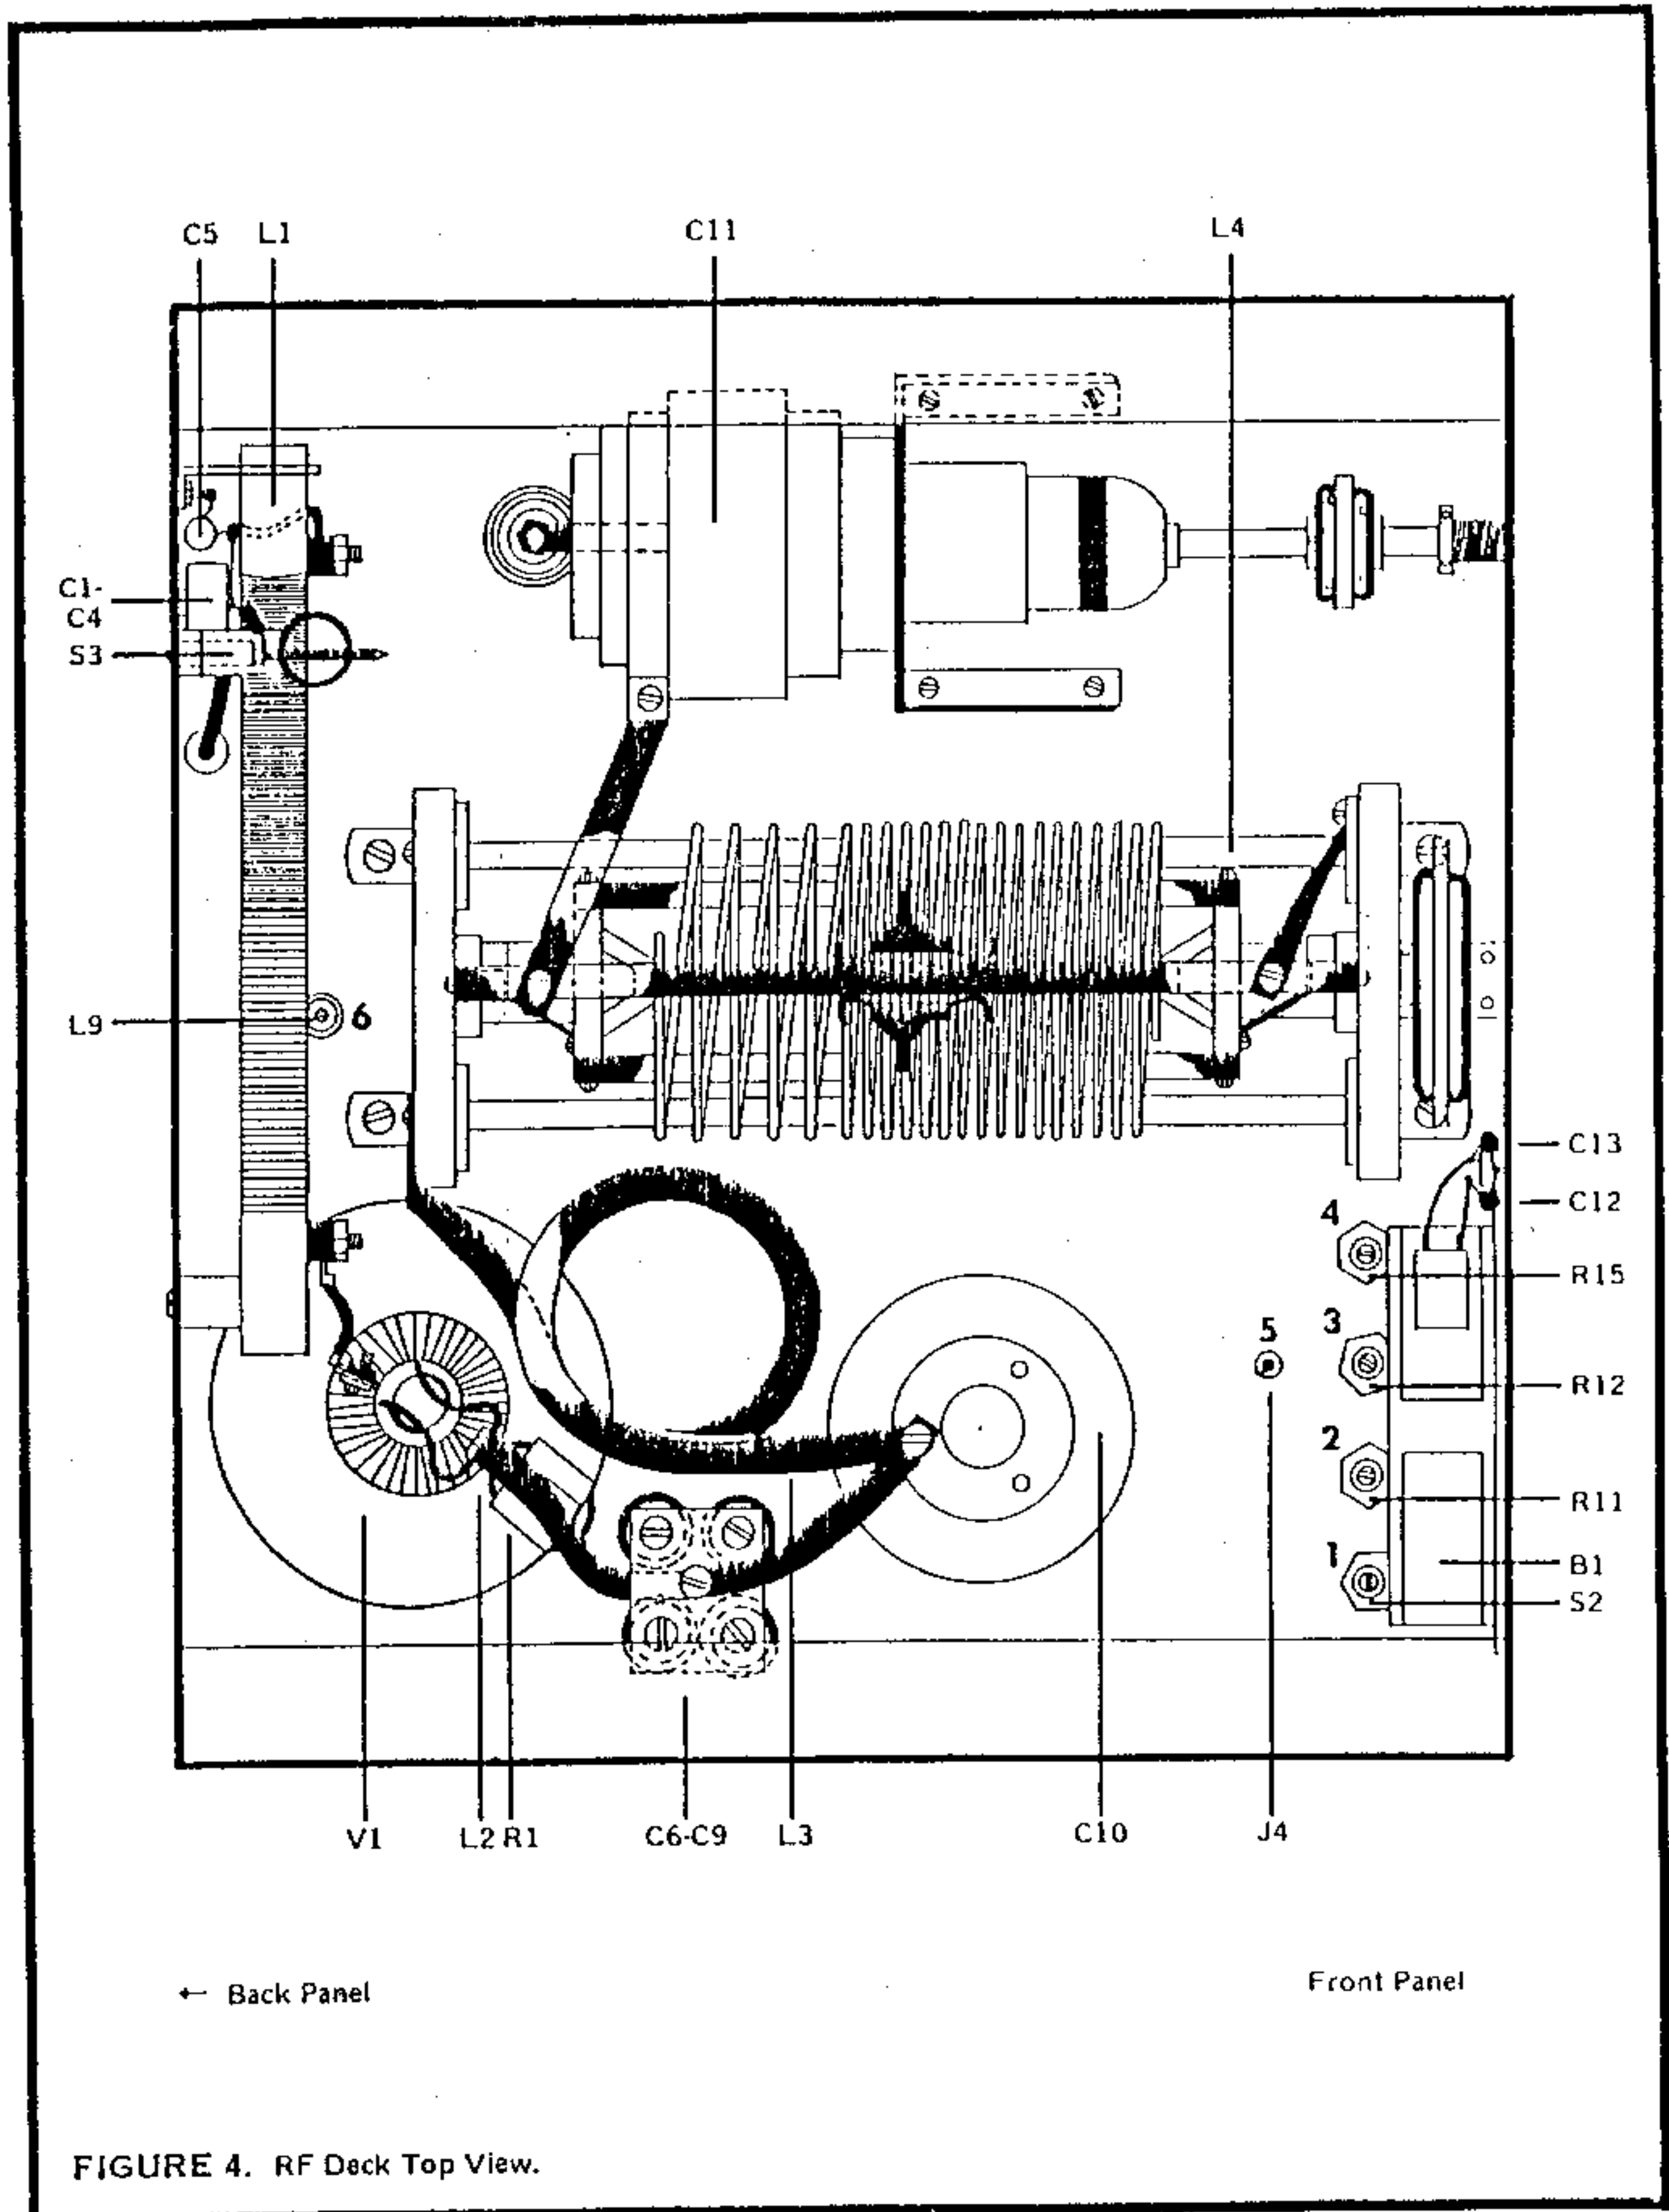

FIGURE 4. RF Deck Top View.
### 3.3 INTERNAL CONTROLS (See Figure 4)
**FILAMENT TRANSFORMER TAP SWITCH (1 on Figure 4)**— This switch selects between 6 primary taps on the filament transformer to compensate for the voltage differences at different operating positions.
**FILAMENT VOLTAGE METER ADJUST (2 on Figure 4)**— This control adjusts the FILAMENT VOLTAGE meter reading. It has been factory adjusted and should not be moved without referring to paragraph 5.4 in Section 5.
**GRID CURRENT METER ADJUST (3 on Figure 4)**— This control adjusts the reading on the GRID meter. It has been factory adjusted for a correct reading and should not be moved without referring to paragraph 5.5 in Section 5.
**PLATE CURRENT METER ADJUST (4 on Figure 4)**— This control adjusts the reading on the PLATE meter. It has been factory adjusted for a correct reading and should not be moved without referring to paragraph 5.6 in Section 5.
**GRID METER TEST POINT (5 on Figure 4)**— The ULTRA is shipped with a shorted phono plug in this test point. The amplifier will not operate without that plug. The test point is used to calibrate the GRID meter and the shorting plug should only be removed when calibrating the meter. The meter has been factory adjusted. The procedure for calibration is described in paragraph 5.5 in Section 5.
**L9 (6 on Figure 4)**— This variable inductor is used for adjusting the inductive matching network on the input of the amplifier to match the exciter. Calibration procedures are described in paragraph 5.8 in Section 5.
The filament voltage adjust switch is shown as number 1 on Figure 4. Remove the top of the amplifier and then its sub-top. Turn the POWER switch to the LOW position and switch S2 until the reading on the filament voltage meter is between 4.75 and 5.25 VAC. There is a jack on the rear panel so that an external meter can be connected for monitoring the filament voltage. The external meter should read .4 volt higher than the panel meter because of the voltage drop in the filament choke.
Remove the top cover and the sub-top of the amplifier. Turn the POWER switch to the LOW position. Connect an accurate AC voltmeter to the green tip jack on the rear panel of the ULTRA (8 on Figure 2). Depress the pushbutton switch under the GRID meter and adjust the filament voltage metering potentiometer (2 on Figure 4) until the reading on the test meter is .4 volts higher than the reading on the FILAMENT VOLTAGE meter.
Remove the top cover and then the sub-top. Remove the shorting plug from the grid metering test in the RF deck (5 on Figure 4). Connect a 0-500 ma meter (a Triplett 630 or its equivalent) to this test point. The circuit requires a 0-500 ma range even though the measurement is only 50 ma. With the POWER switch in the LOW position, increase the exciter drive until the test meter indicates 50 ma. Adjust the grid metering potentiometer (3 on Figure 4) until the GRID meter reading coincides with the test meter reading.
Remove the top cover and then the sub-top. Remove the rear panel of the power supply section. Insert a 0-1 DC amp meter in series with the high voltage connector (9 on Figure 4). Turn the POWER switch to the LOW position and apply drive until the test meter shows .5 amp. Turn the plate metering adjustment potentiometer until the 4K ULTRA PLATE meter reading coincides with the test meter reading.